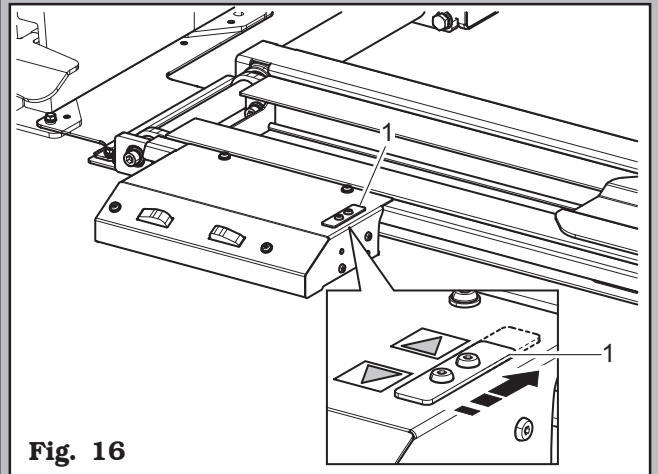

Fig. 16
- Press the pedal for wheel weight memorization (Fig. 16 ref. 1) and push it forward for the of the wheel weight.